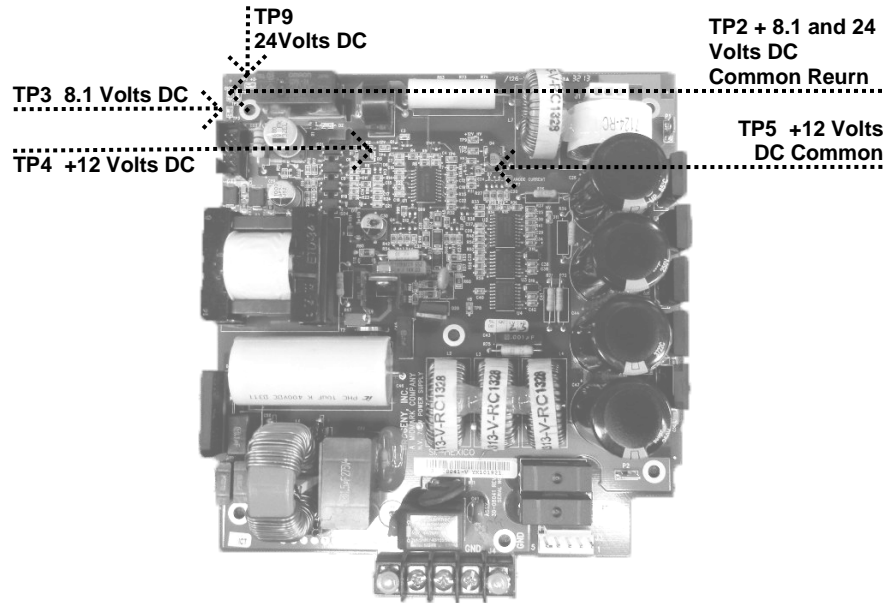

Figure 59
2. On the Power Supply Board, use TP2 as a common test point to check TP1 +24 volts DC and TP3 8.1 volts DC. Then use TP5 as the common return to check TP4 for the presence of +12 volts DC, as shown in *Figure 59*. Should any of these voltages not be present, replace the Power Supply Board. If these voltages are correct, next check voltages on the Logic Board.